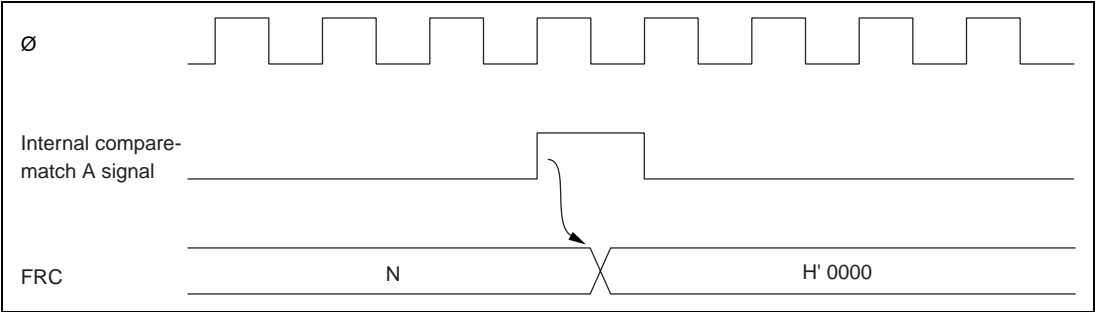

Figure 7.14 Setting of Input Capture Flag
(2) Timing of Input Capture Flag (ICF) Setting: The input capture flag ICF_x (x = A, B, C, D) is set to “1” by the internal input capture signal. Figure 7.14 shows the timing of this operation.